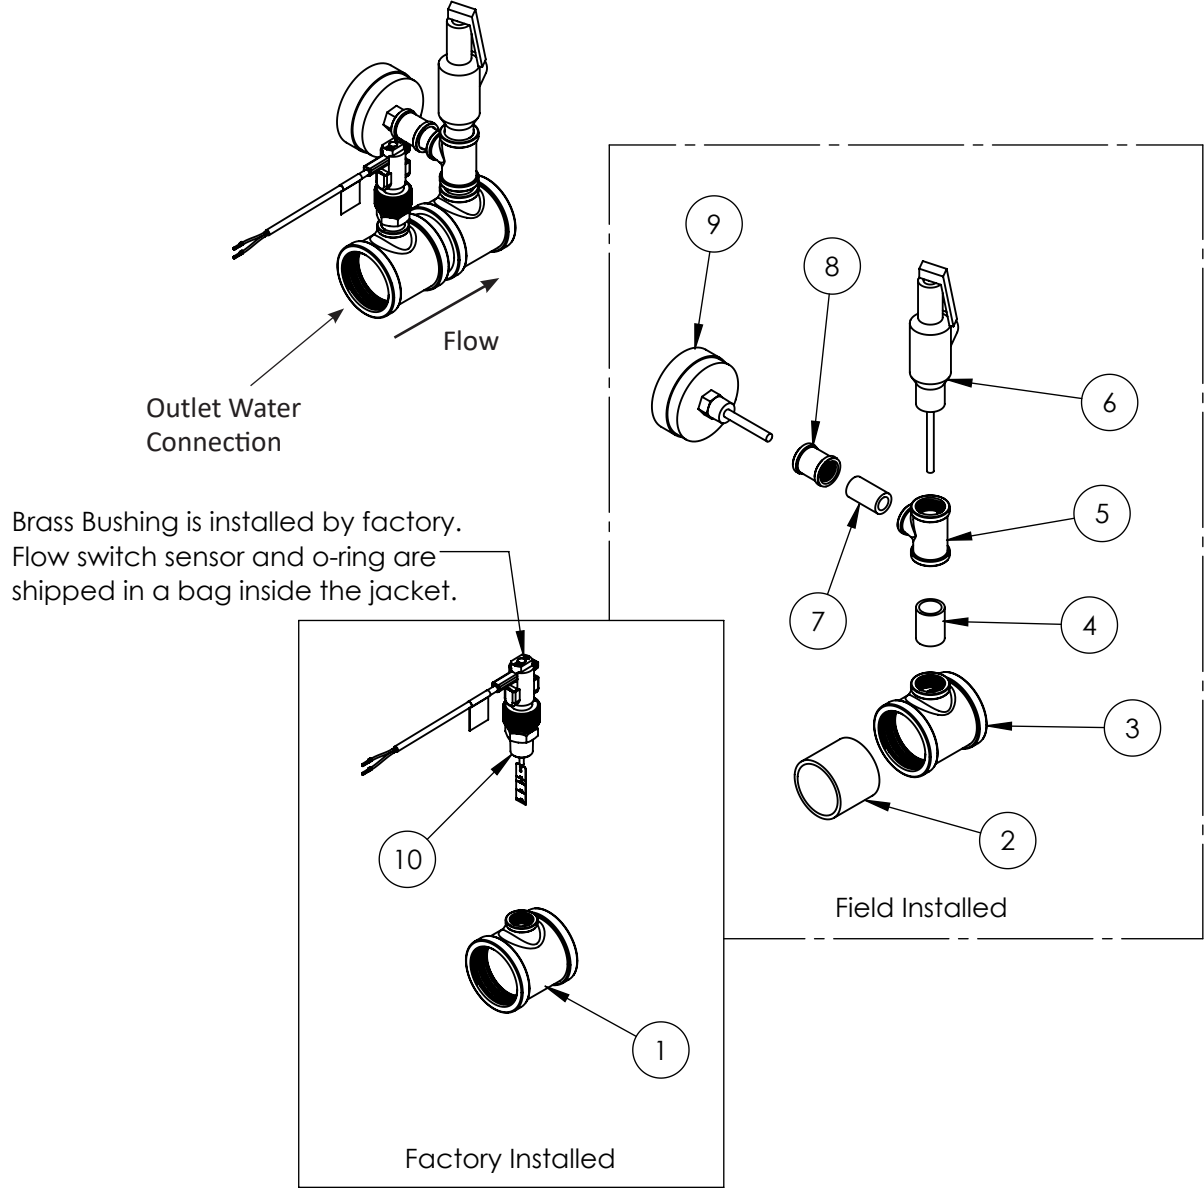

Figure 15: Relief Valve Package Assembly
2. The hot water supply line shall be connected to the outlet piping of the appliance shown in Figure 15.
- 1. The relief valve, T&P gauge, and required fittings ship loose with the appliance. These parts must be installed to the outlet as shown in Figure 15.
- a. This appliance is shipped with a temperature and pressure (T&P) relief valve complying with the standard for relief valves for hot water supply systems ANSI Z21.22 • CSA 4.4. Must be field installed as shown in Figure 15.